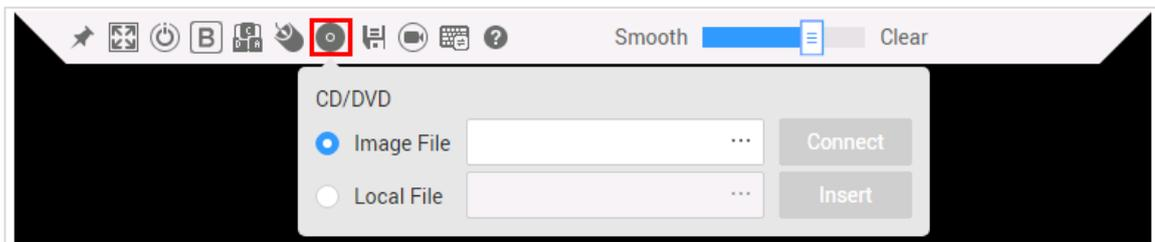

Figure 4-11 CD Options
Step 1 Click  in the upper part of the screen. The dialog box shown in Figure 4-11 is displayed.